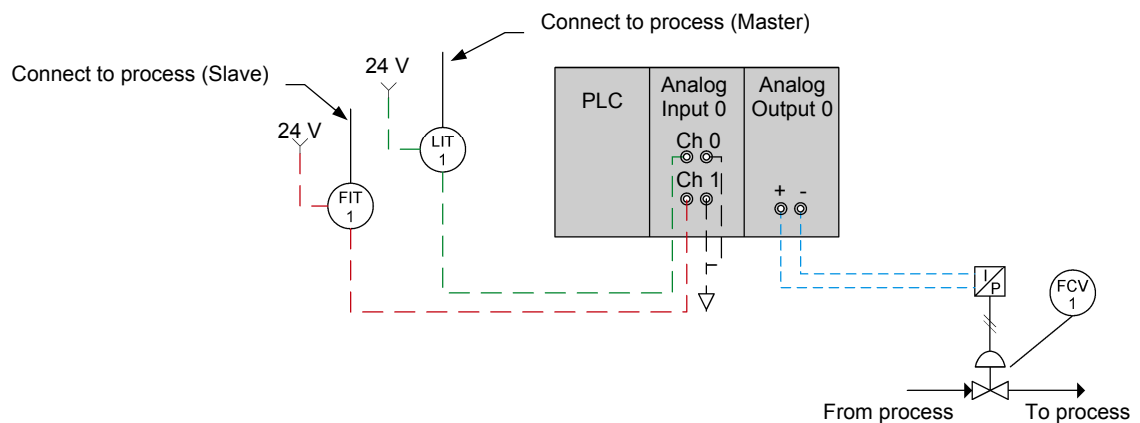

Figure 30. Typical connection for cascade control.
1. Connect the PLC to the process as shown in Figure 30.